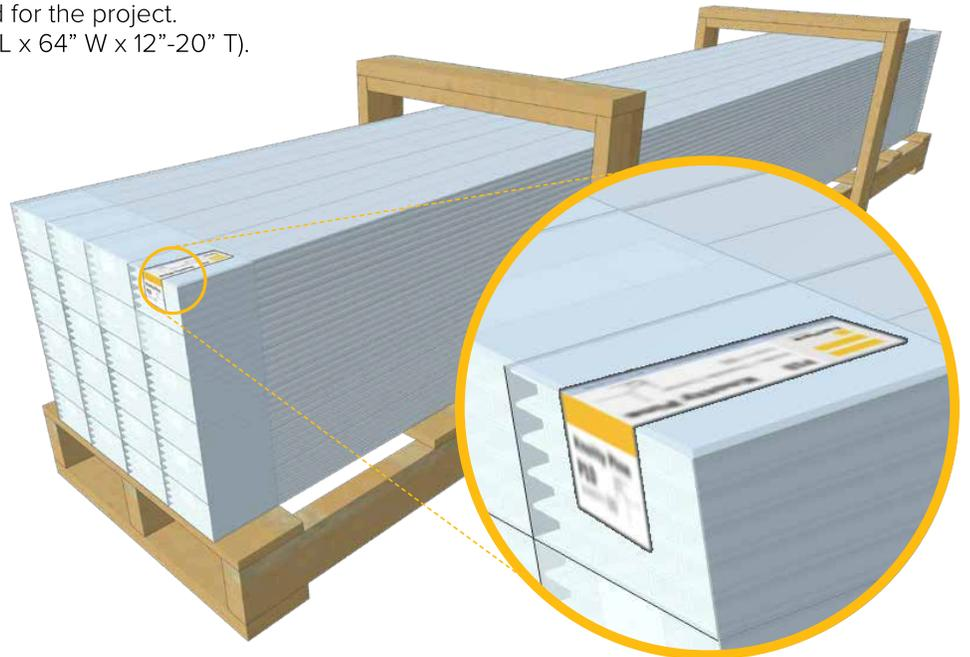

Figure 4.1
- ! Trim material will be received on a pallet (Figure 4.1). Pallet size may vary (typical pallet size is 10' L x 33" W x 24"-32" T).